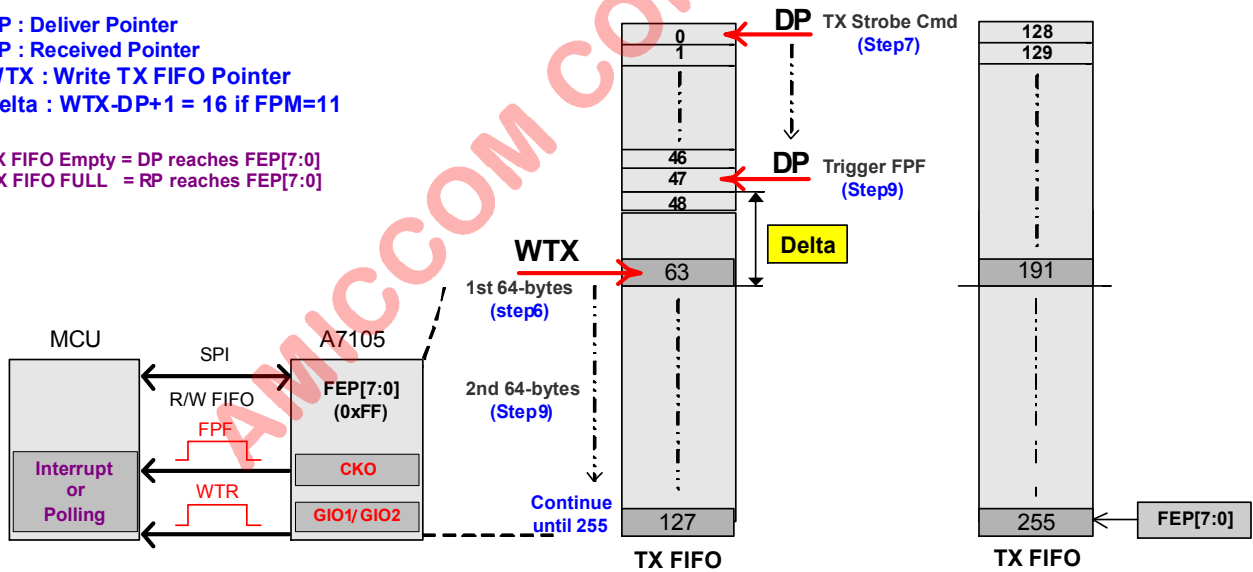

Figure 16.5 TX FIFO Extension
4. Refer to Figure 11.2, Figure 11.3 and Figure 16.5 TX FIFO Extension.